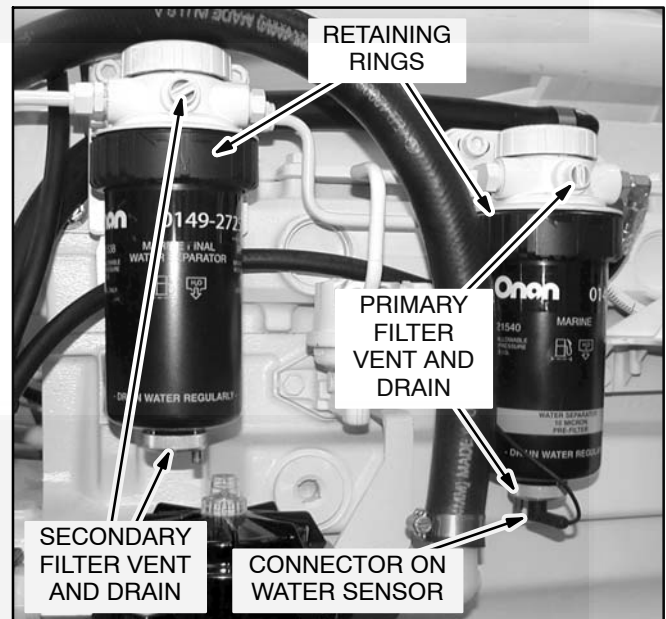

FIGURE 4-7. PRIMARY AND SECONDARY FUEL FILTERS
See Table 4-1 for scheduled filter change. The genset has a primary and a secondary fuel filter. The primary filter has a water separator and sensor (Figure 4-7). Check for up-stream filters which may also need to be replaced.
1. Disconnect the water sensor connector (Figure 4-7). Loosen the vent and drain screws and drain the water and sediment into a suitable container (about 1/2 cup or 120 ml).